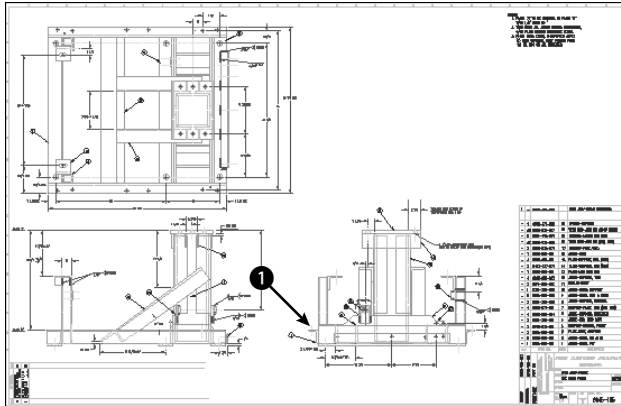
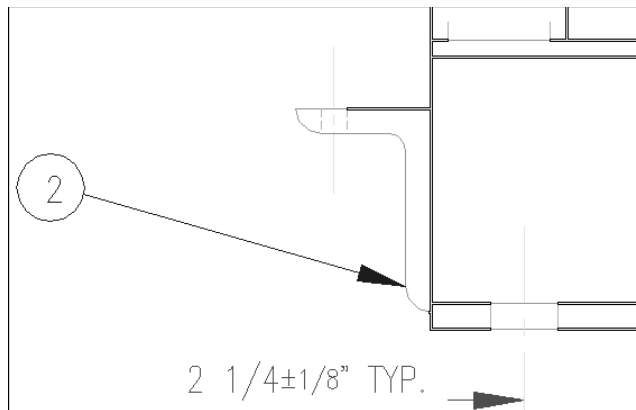

Figure 20-13: This drawing of a base assembly for a commercial washing machine has objects that can be linked to the database of parts.
Figure 20-14: The horizontal angle.
1. You should have `ab20-01.dwg` open from the previous exercise. The Data View window is open with the database visible. The `PART_NO_Link1` link template is current. You can see the entire drawing in Figure 20-13.
6. AutoCAD returns you to your drawing. Use Zoom Window to zoom into the area marked ① in Figure 20-13.
7. Select all the objects that make up the angle bracket indicated by ① in Figure 20-13 (and which the drawing itself labels as 2), as shown in Figure 20-14. Include the two cyan hidden lines representing the hole, but not the yellow centerline. Don't select the vertical line on the right of the angle, which belongs to another part. Press Enter to end selection. AutoCAD returns you to the Data View table and displays 1 Record(s) linked with 8 Object(s) on the command line.